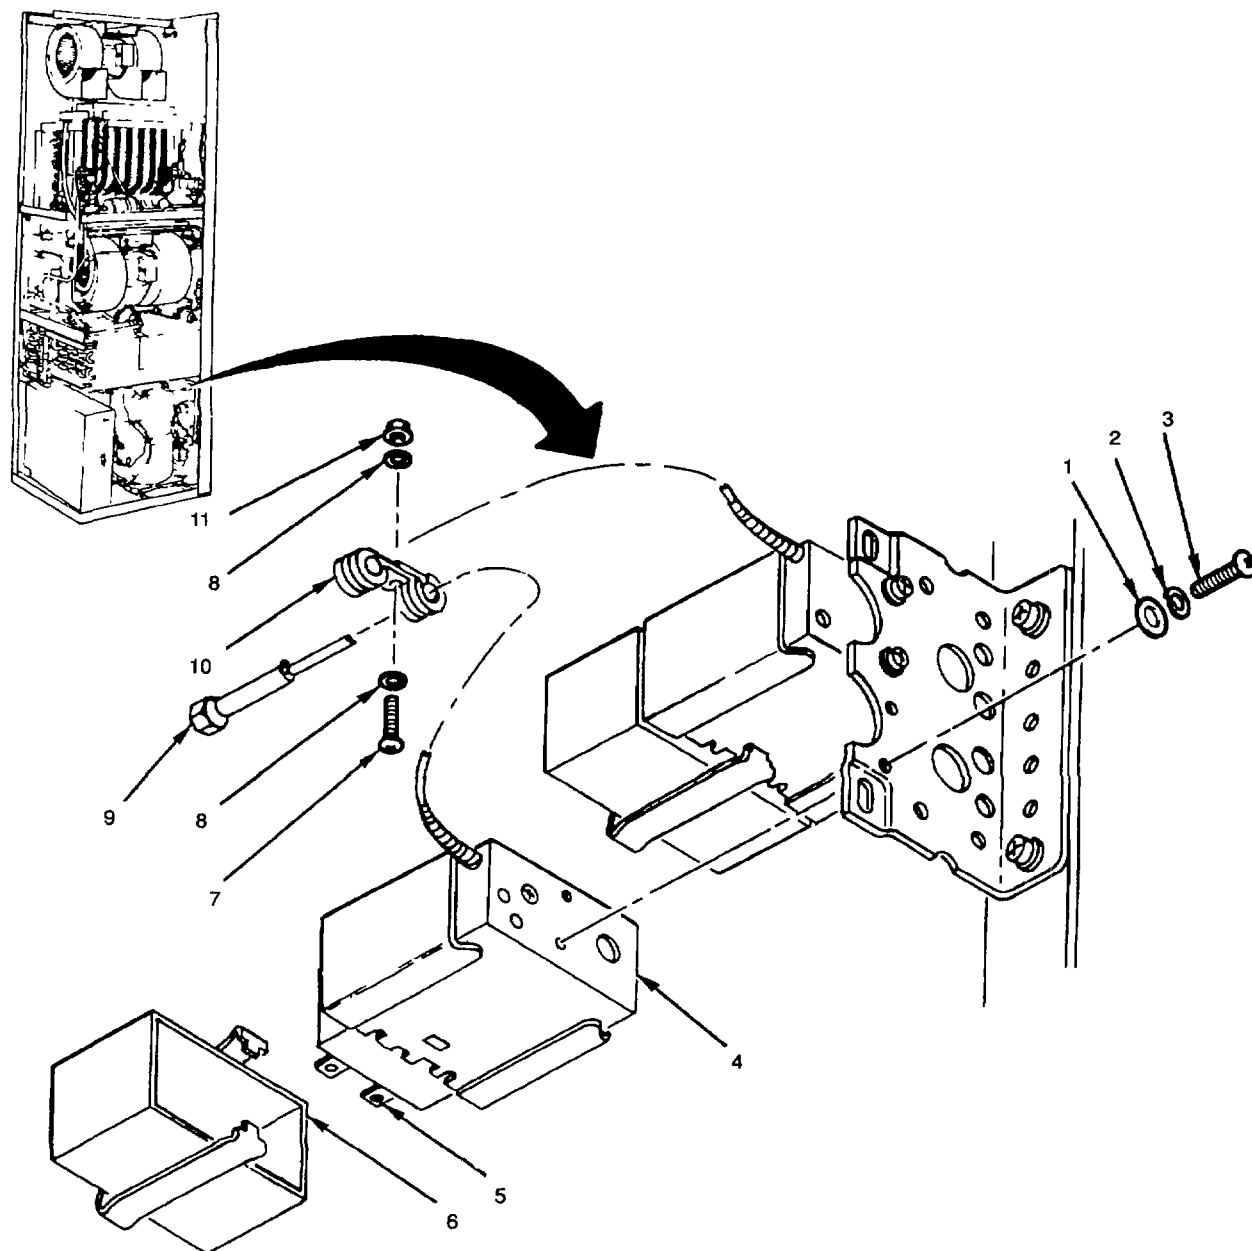

Figure 5-13. Low Refrigerant Pressure Switch (S4)
- a. Check that switch and cover are not dented, broken or cracked. Replace switch and cover if defective (see fig. 5-13).